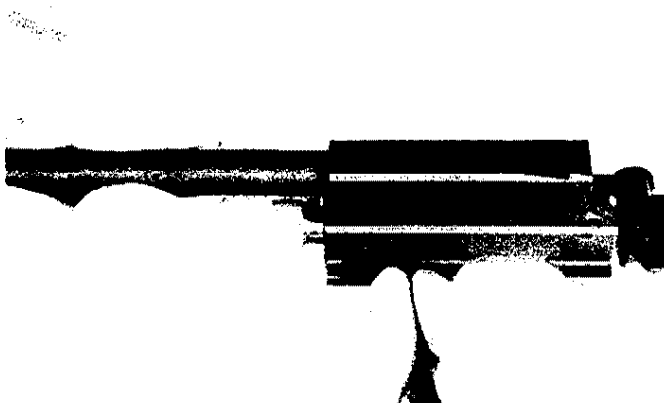

FIGURE 23. REMOVING CAM PIN
- (3) Push the bolt into the carrier, and remove the cam pin from the bolt (figure 23).
- (4) Remove the bolt from the bolt carrier.